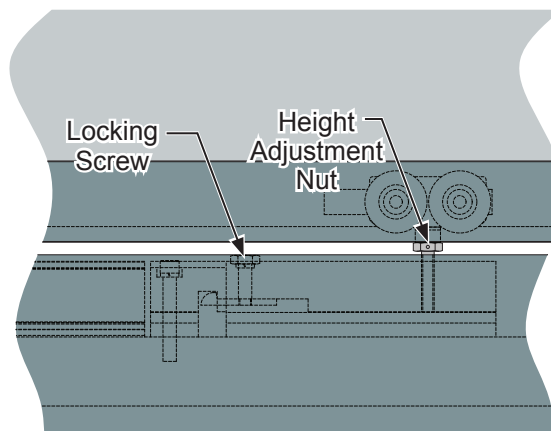

FIG. 14
2. If height adjustment is required, rotate the height adjustment nut until desired height is achieved. (**Fig. 14**)